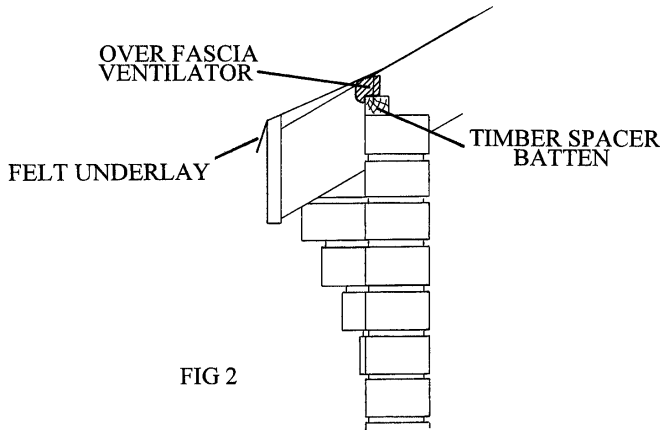

FIG 2
- 2) Fixed to a timber spacer batten fitted to the brickwork to push the Over Fascia Ventilator tight up against the felt see (figure 2).